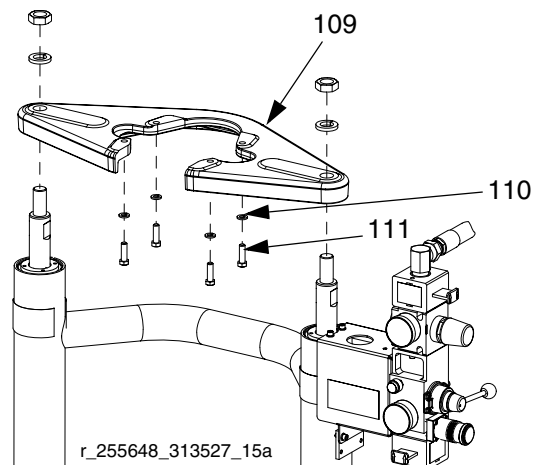

FIG. 26: NXT on D60 with Ram
- b. For NXT with smaller platen: If the motor was removed, tighten set screws (111) and washers (110) on mounting bracket (109). See FIG. 26 on page 26.
1. Using a secure hoist, attach motor to mounting plate (109) with screws (111) and washers (110). See FIG. 26 on page 26.